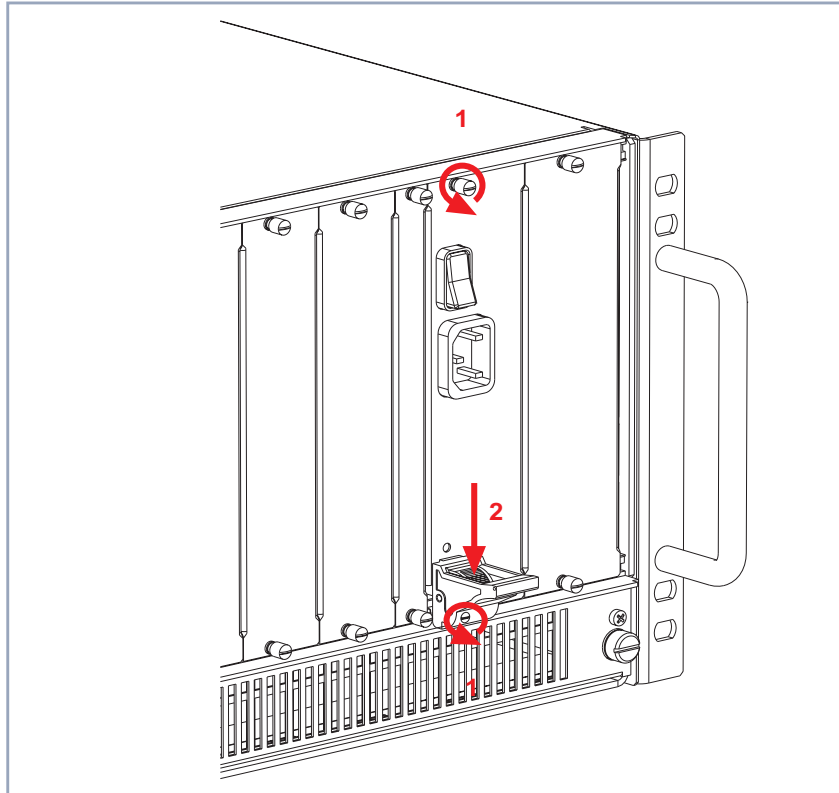

Figure 4-16: Removing the power supply unit
- Loosen the screw of the power supply front panel as shown in figure 4-16, page 56, arrows no. 1.
- Press the switch on the injector/ejector handle down in order to release the connection linked to the cross section of the case front, see figure 4-16, page 56, arrow no. 2.